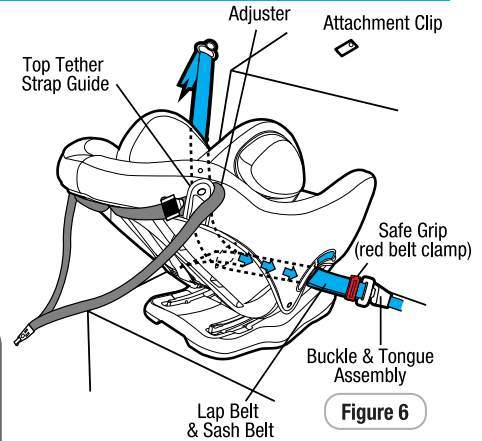

Figure 6
**Step 6:** Locate the adjuster at the side of the restraint and secure using the top tether strap guide (refer Figure 6 & 7).